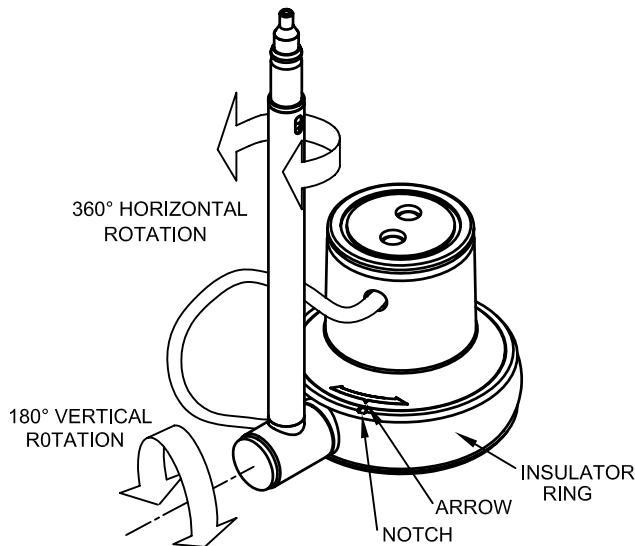

FIG. 6
5. After the lamp is installed, replace the HOUSING by aligning the arrow on the HOUSING with the notch on the RING, push the HOUSING into the RING, and turn the HOUSING clockwise until the HOUSING stops (See Fig. 6).
6. To aim fixture, hold by the INSULATOR RING and rotate the fixture as shown (See Fig. 6).